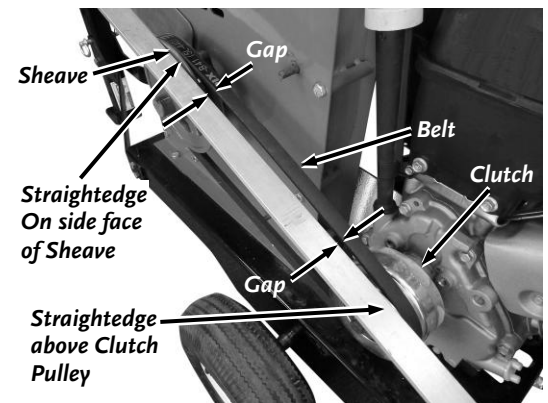

Figure 25
3. Check the alignment of the Clutch with the Sheave by placing a Straightedge against the Sheave outside face near, but not touching, the Clutch Pulley (**Figure 25**).